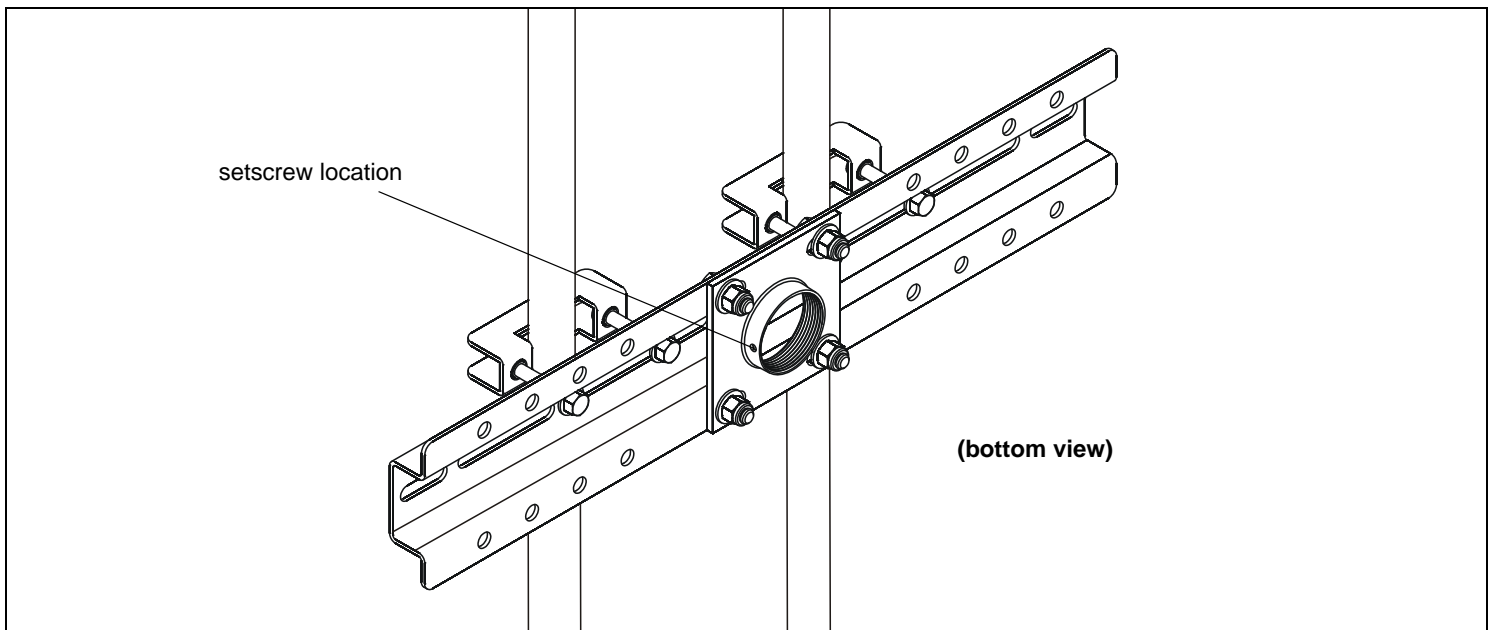

Figure 1: CMA-366
1. Secure the hang down truss plate with ceiling plate to a structural member in the desired location using two clamps, four 3/8-16 x 2" bolts and four 3/8" flat washers. (See Figure 1)